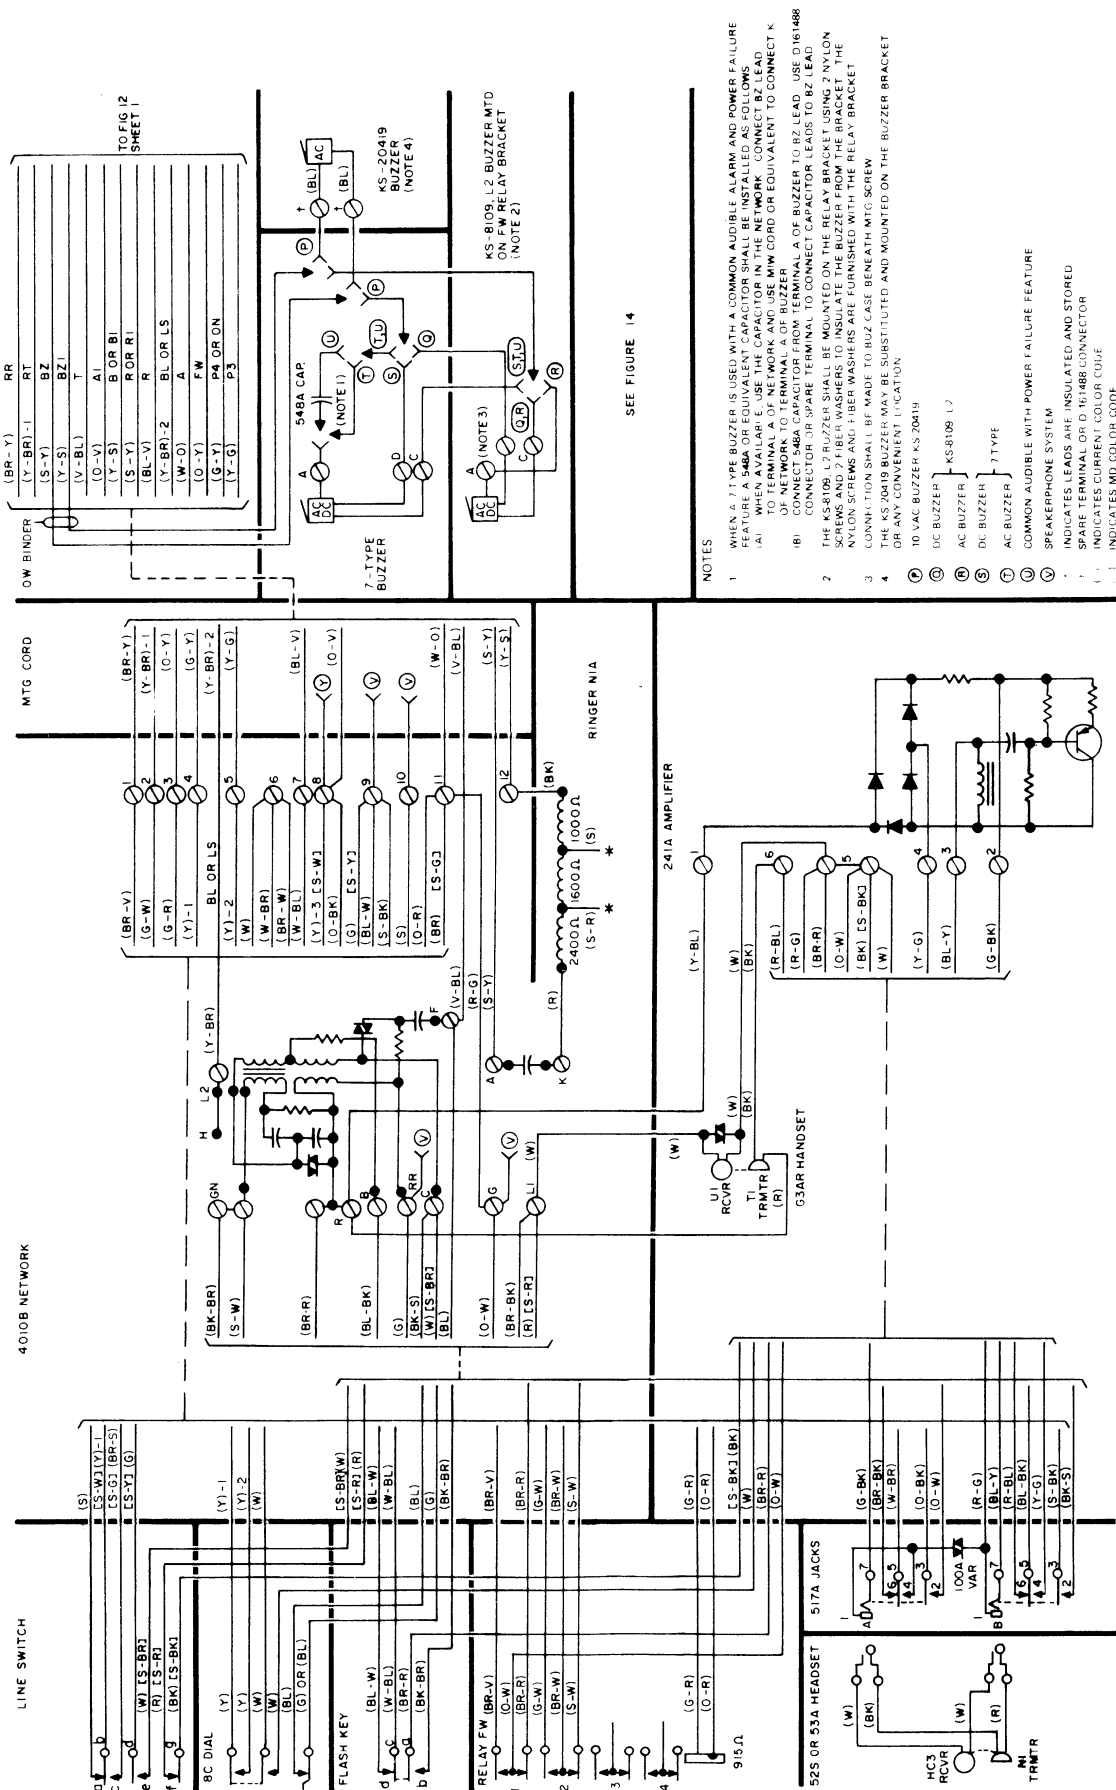

Figure 8. Wiring Diagram of Telephone Set.
3.08 The FW relay (Figure 8) switches the receiver from two- to four-wire circuitry as follows:
- Reconnect dial leads (Figure 8) and reassemble dial mounting plate.